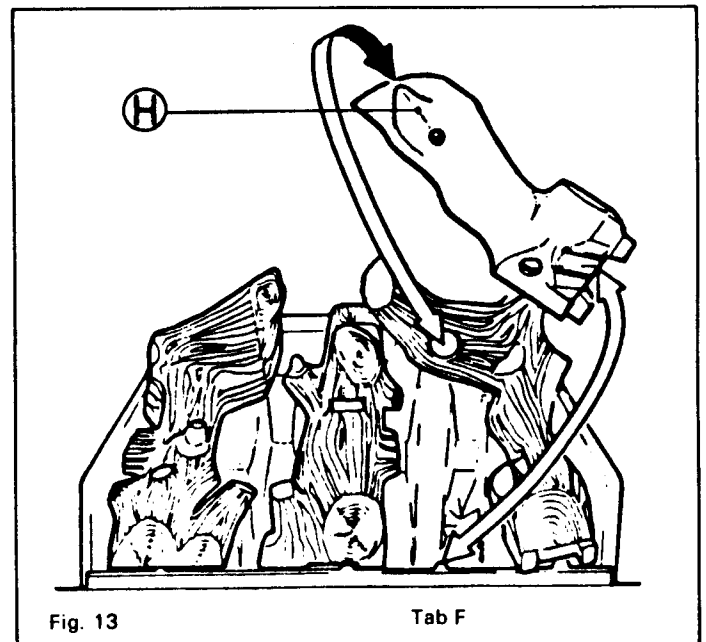

Fig. 13
- (iv) (Refer to Fig 13). Place log No. 4 between logs 2 and 3. Locate the groove (situated under the front edge of the log) onto tab 'F' on the front support rail. Locate the projection 'H' (situated under the rear of the log) into the hole in log No. 3.